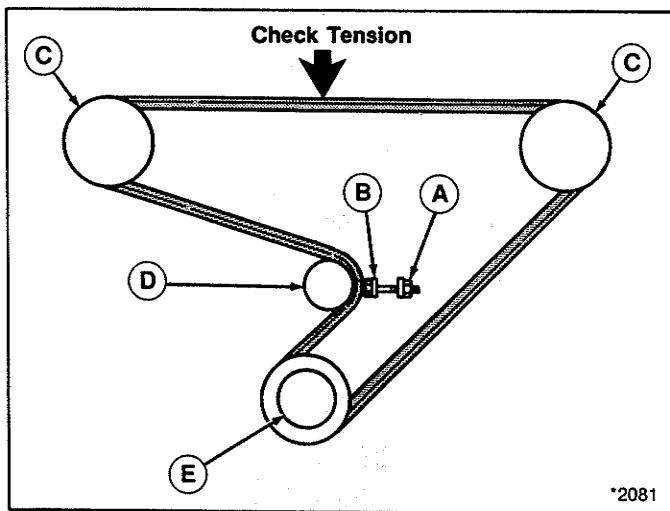

Figure 36.
Belt tension can be increased or decreased by turning the adjustment nut (A, figure 36) after idler pulley hardware (F) is loosened. This nut controls the movement of the idler pulley bracket (B) from side-to-side. Adjust belt tension so there is 3/4" deflection measured halfway between pulleys (C).